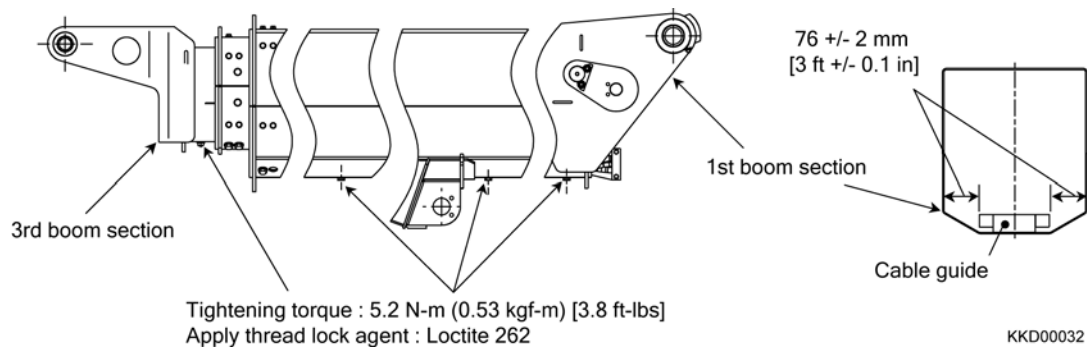

Fig. 2-62
- 11) Fix the cable guide bracket (Lower) to the 1st boom section and cable guide bracket (Upper) to the 3rd boom section. (Fig. 2-62)